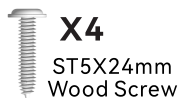

Fig. 2.2
**Option 1:** Secure the mounting plate to a wooden ceiling beam or support structure with an approved electrical outlet box using the ST5x24mm wood screws (included) as shown in Fig. 2.2.